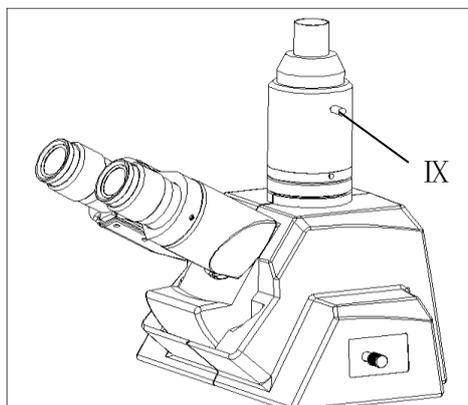

Fig.10
**4-2-9 Change the camera interface (figure 10 and 11 are optional)**
As shown by Fig.10, spin out the serial number IX screw a distance, to make it no longer top tighten the camera interface, then unplug the camera interface.
As shown by Fig.10, screw the camera interface into the three - eye socket to the appropriate location according to the path of Num⑨, screw into position used to tighten camera interface as shown by IX.